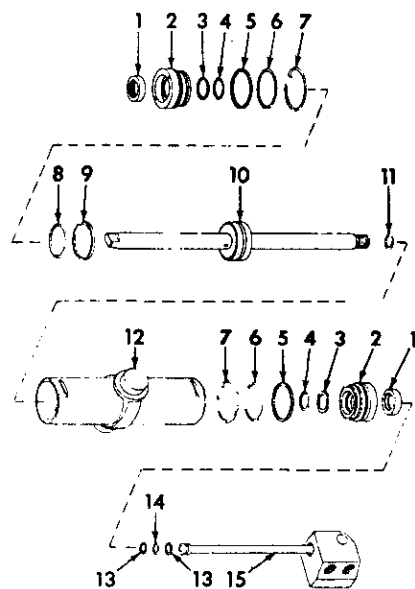

Fig. 19—Exploded view of double acting steering cylinder used on Series 424, 444, 2424 and 2444 equipped with narrow tread front axle.
Advance throttle until engine reaches 2000 rpm, then apply 72 inch-pounds (6 foot-pounds) to torque wrench in same direction as the front wheels are positioned against stop. Keep this pressure (torque) applied for a period of one minute and count the revolutions of the steering wheel. Use same procedure and check the steering wheel slip in the opposite direction. A maximum of three revolutions per minute in either direction is acceptable and system can be considered as operating satisfactorily. If the steering wheel revolutions per minute exceed three, record the total rpm for use in checking the steering cylinder on models equipped with double acting steering cylinder (Fig. 19).
28. DOUBLE ACTING CYLINDER. To remove the double acting steering cylinder (Fig. 19), disconnect and immediately plug the hydraulic lines. Remove cap screws from lower steering arm (33—Fig. 5) and disengage cylinder from steering arms. Remove pin retaining anchor assembly (15—Fig. 19) to axle main member and remove cylinder assembly from tractor.